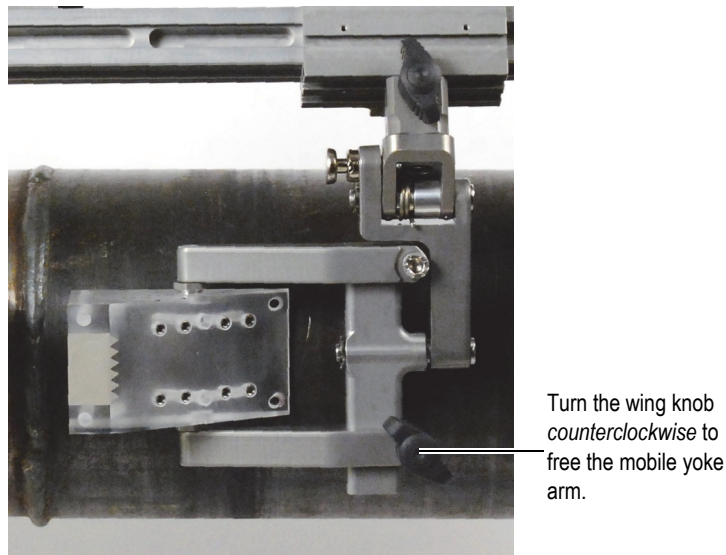

Figure 7-3 Mobile yoke arm wing knob
6. Use the wing knob to release the probe arm that holds the yoke parts together (see Figure 7-3 on page 115).
6. Use the wing knob to free the mobile yoke arm that holds the yoke parts together (see Figure 7-3 on page 115).